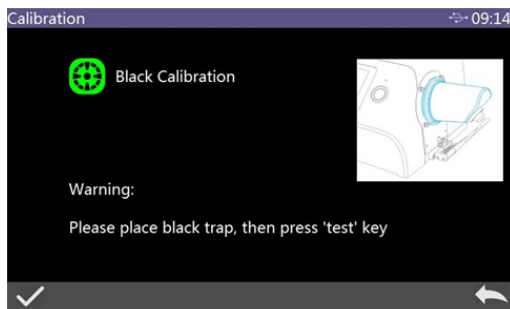

Figure 5 Reflective Black Calibration Interface
3. Click → to enter Reflective Black Calibration interface as shown in Figure 5. Place well black cavity according to the warning, then press the test key to start black calibration, or click ← to cancel and quit the calibration.